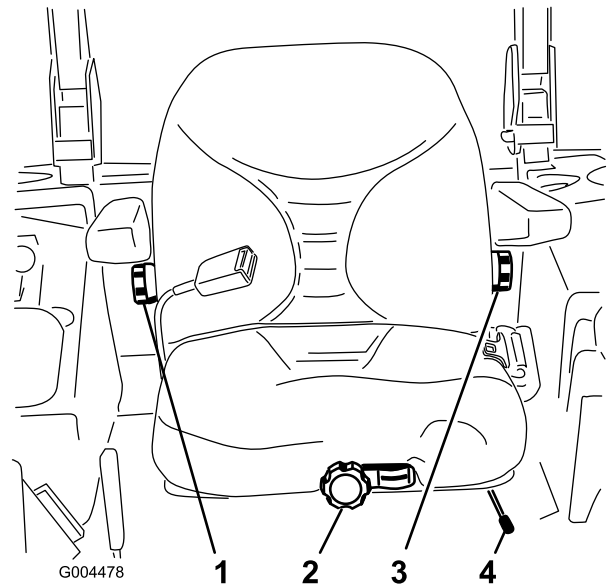

Figure 22
1. To adjust, move the lever sideways to unlock the seat (Figure 22).
To adjust it, turn the knob, under the right-side arm rest, in either direction to provide the best comfort (Figure 22).
To adjust it, turn the knob, under the left-side arm rest, in either direction to provide the best comfort (Figure 22).